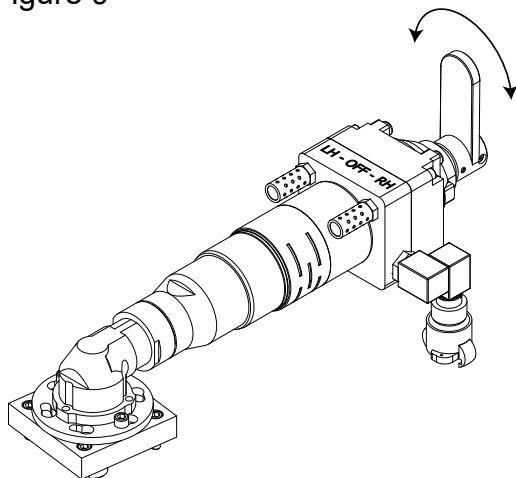

Figure 9: Air Motor Operation
Air Motors: Open the air control valve on the Air Caddy to supply power to the motor. Both the standard upright Air Drive motor and Right Angle Air Drive Motor have a control valve at the top that can be turned Left (LH) or Right (RH) to determine the spin of the drill bit. The locking lever must be pressed down while turning to free it from the catch that locks it in the OFF position. See Figure 9